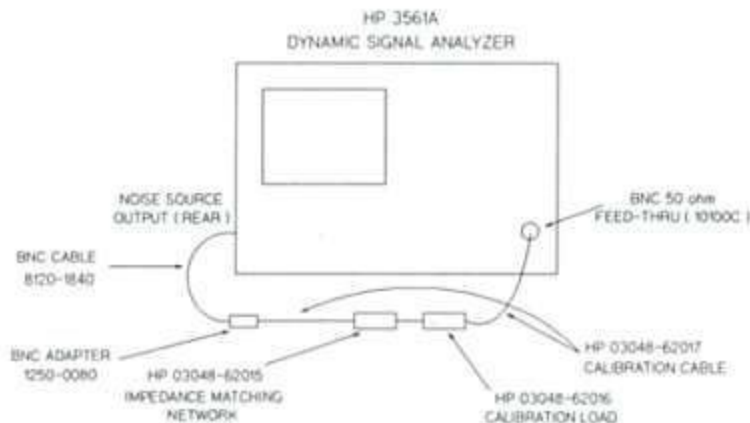

Figure 3-3. Setup for Reference Measurement with HP 3561A
1. Connect the equipment as shown in figure 3-3.